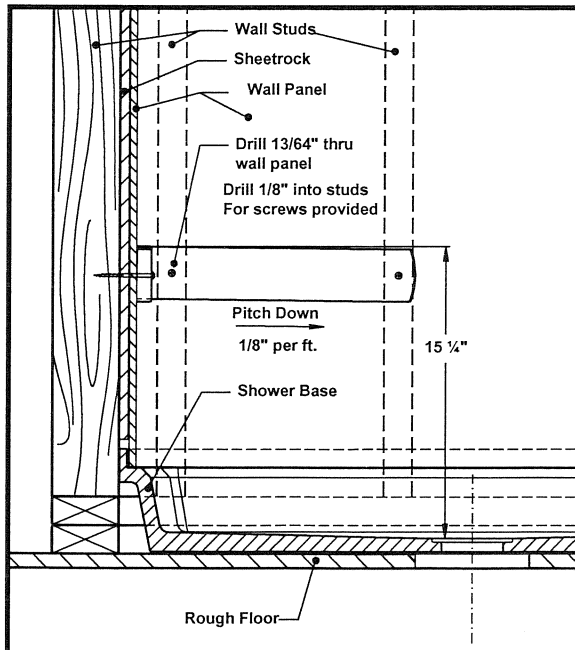

Fig. 2
Step 1. With a soft pencil mark the corner of the shower walls 15-1/4" above the shower base. Draw a set of lines pitched downward 1/8" per foot from the mark (See Fig. 2).
- Step 3. Using the predrilled holes in the mounting bars, drill a (minimum) **13/64" diameter hole through the wall panel** and into the drywall. Drill a **1/8" diameter hole into the studs** (See Fig. 2).